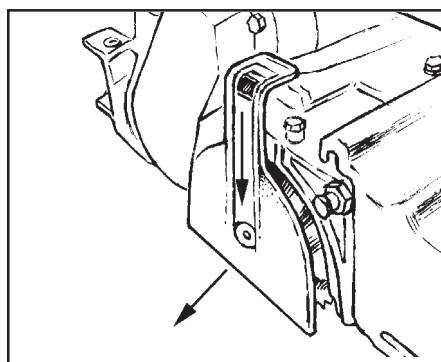

Figure 31
7. With the brush head unit in the up position, remove the removable brush support hub by pushing downwards and then pulling it outwards (see figure 31).